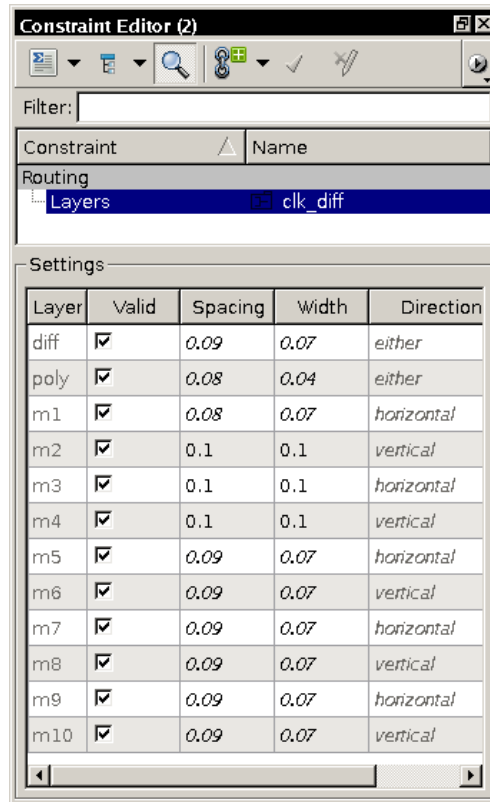

Figure 13 Modifying Layer Constraints in the Constraint Editor Window
- a. Set the **Spacing** and **Width** of layers m2, m3, and m4 to 0.1u, as shown in Figure 13.